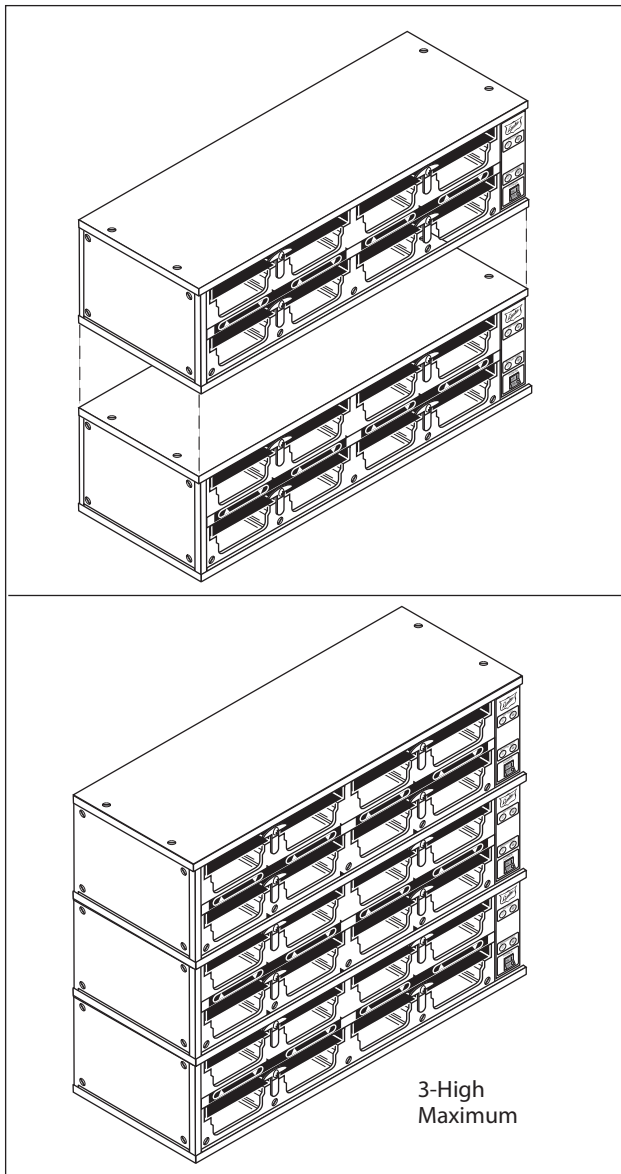

Figure 8. Stacking Warmers
- Stack the next Warmer on top. The top of the lower Warmer rests inside of the base of the upper Warmer. See Figure 8.